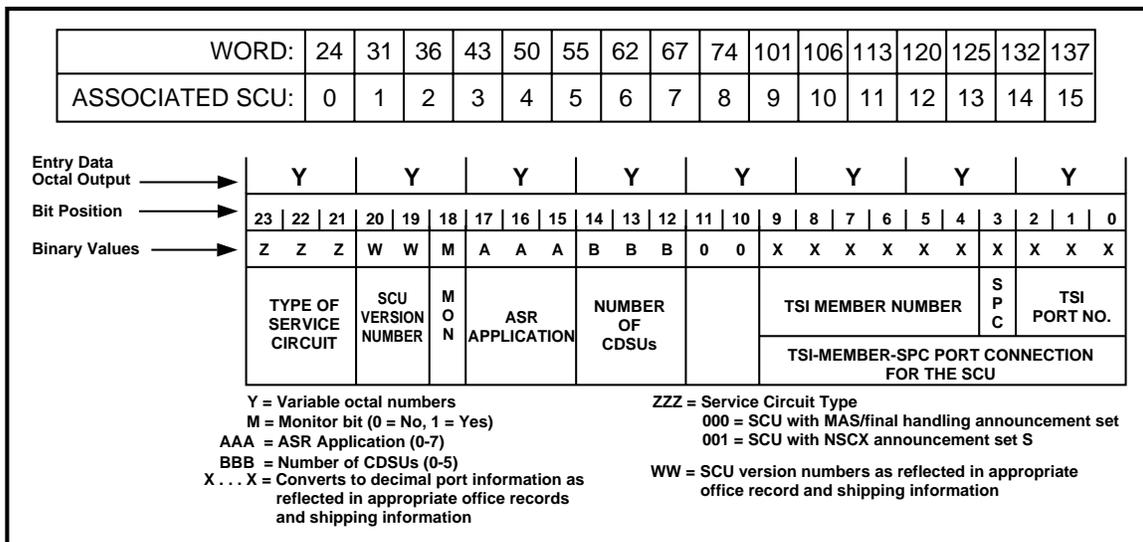

Figure 2. Unit Type Translator Words Used to Verify CDSU Count
- Looking at the Unit Type (UT) translator printout, use Figure 2 to determine the number of Custom Data Services Units (CDSUs) assigned to the desired Service Circuit Unit (SCU). The CDSU count is determined by bits 12 through 14 of the appropriate word.